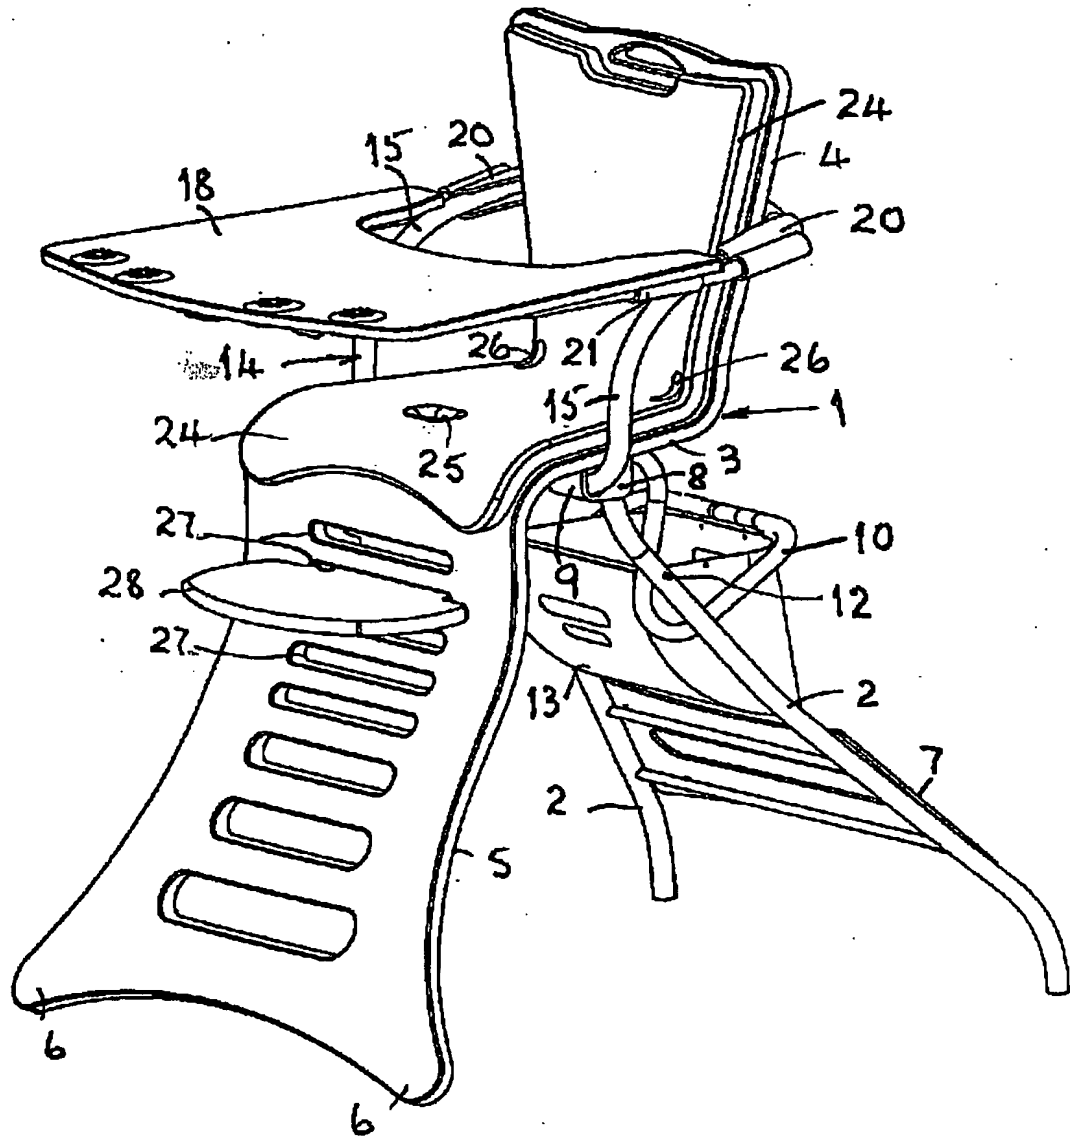

Fig. 3
35 Figures 3 and 4 are perspective views of the high-chair of the invention from above and below respectively.
- an elbow that is open on its inside (see Figure 3) so that it 'cups' onto the tube 14 around the bend, and a manually-releasable catch (not shown) then becomes operative to hold it there. The frame 19, and with it the tray 18, is accordingly in this way firmly secured to the chair, but can be freed when desired, by releasing the catch and pushing the frame 19 slightly rearwards to disengage the mounts 20 from the tube 14.
- 30 Cushioning of the chair-seat and back-rest portions 3 and 4 for comfort of the occupant is provided by a cover 24 which also extends down from the front of the portion 3 into the portion 5 to lie under the knees of an infant occupant. The cover 24 has appropriate apertures 25 and 26 (Figure 3) where attachment of harness (not shown) to